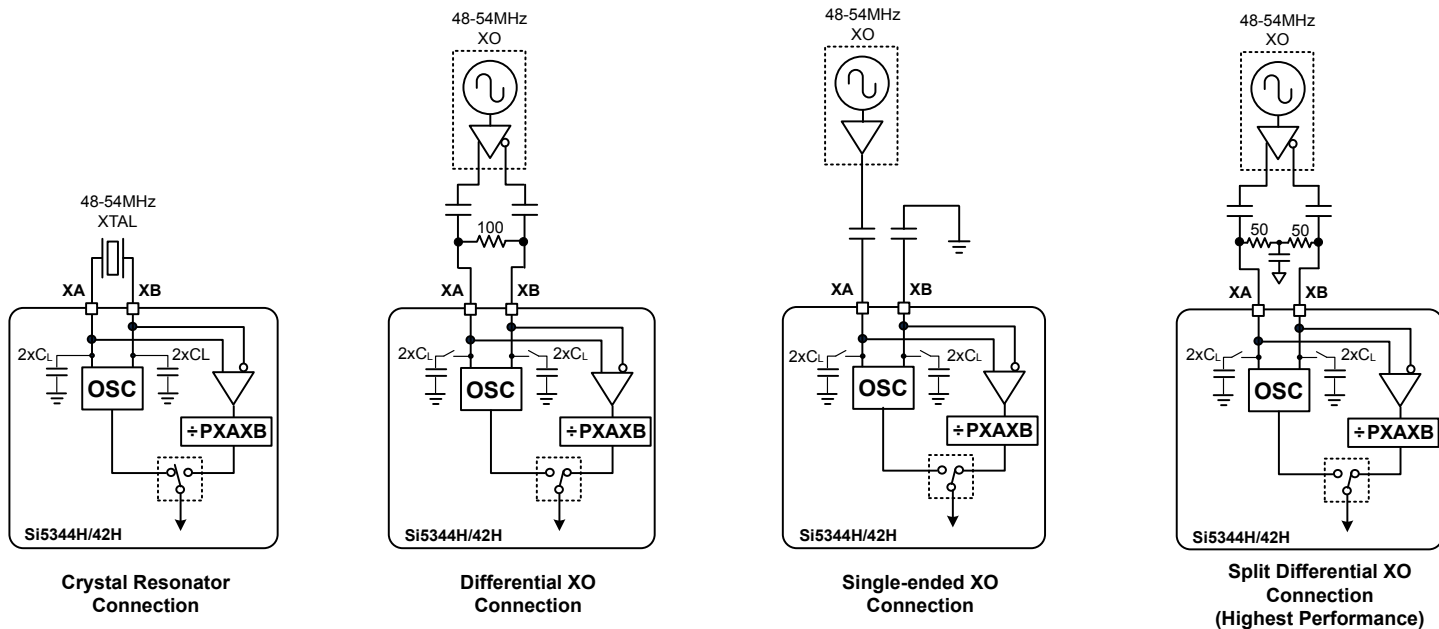

Figure 9.1. Crystal Resonator and External Reference Clock Connection Options
An external standard non-pullable crystal (XTAL) is used in combination with the internal oscillator (OSC) to produce an ultra low jitter reference clock for the DSPLL and for providing a stable reference for the free-run and holdover modes. A simplified diagram is shown in Figure 9.1 Crystal Resonator and External Reference Clock Connection Options on page 46. The device includes internal XTAL loading capacitors which eliminates the need for external capacitors and also has the benefit of reduced noise coupling from external sources. Although the device includes built-in XTAL load capacitors (CL) of 8 pF, crystals with load capacitances up to 18 pF can also be accommodated. Frequency offsets due to CL mismatch can be adjusted using the frequency adjustment feature which allows frequency adjustments of ± 200 ppm. The recommended crystal suppliers is provided in Table 9.1 XAXB Frequency Offset Register on page 47 with PCB layout recommendations for the crystal to ensure optimum jitter performance.